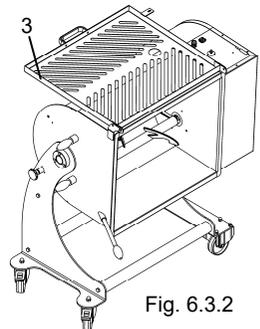
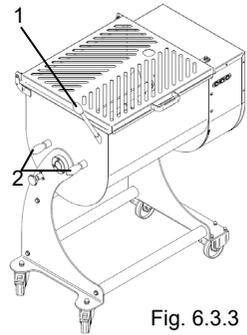
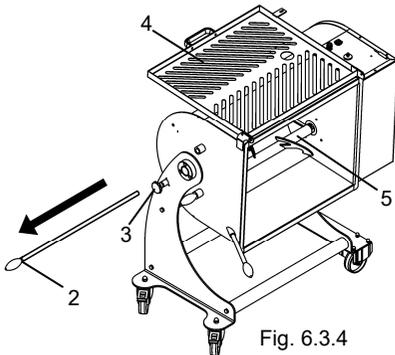

Fig. 6.3.2
Fig. 6.3.3
Fig. 6.3.4
- Once having released the mixing bowl rotate (Fig. 6.3.2) by pulling the tilting bar "1" Fig. 6.3.1.
- Open the protection grille "3" Fig. 6.3.2 and empty the bowl.
- With the bowl in a horizontal position grip the handle on the bowl tilting bar "1" Fig. 6.3.3
- Unhook and remove the pins which lock the mixing blades "2" in position Fig. 6.3.3 and "2" Fig. 6.3.4
- Unscrew the bowl locking knob "3" anti-clockwise Fig. 6.3.4
- Once having released the mixing bowl rotate (Fig. 6.3.2) by pulling the tilting bar "1" Fig. 6.3.3.
- Open the grille "4" Fig. 6.3.4 and proceed with removing the mixing blades.
- Grip the mixing blades one at a time "5" Fig. 6.3.4 and pull outwards to remove.